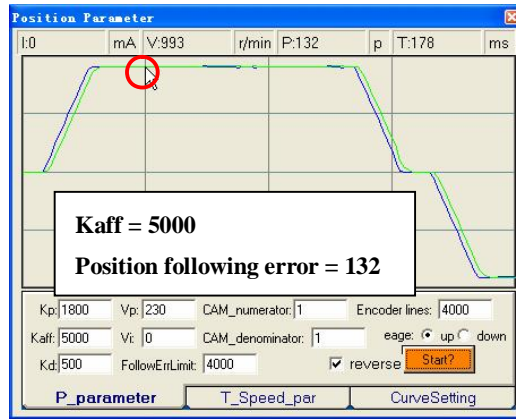

Figure 6-33: Increase Kaff to 5000 for quick response
**Step 4:** Increase **Kaff** to 5000 and 10000. The position following error reduces to 132 and 86, respectively. See figure 6-33 and 6-34.